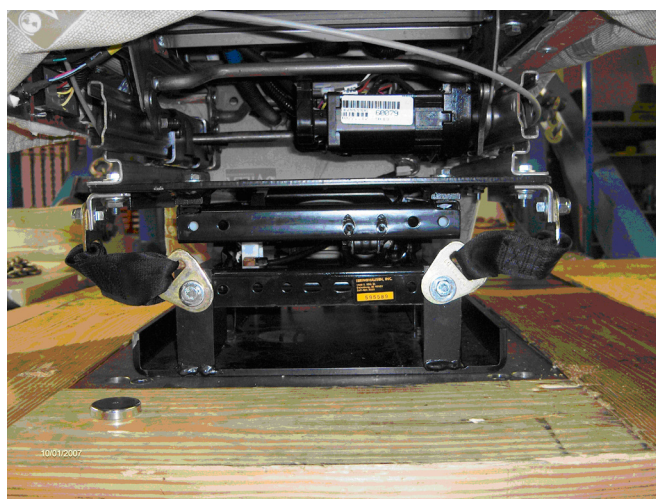

Figure 5
6. Tethers installed (*Figure 5*).